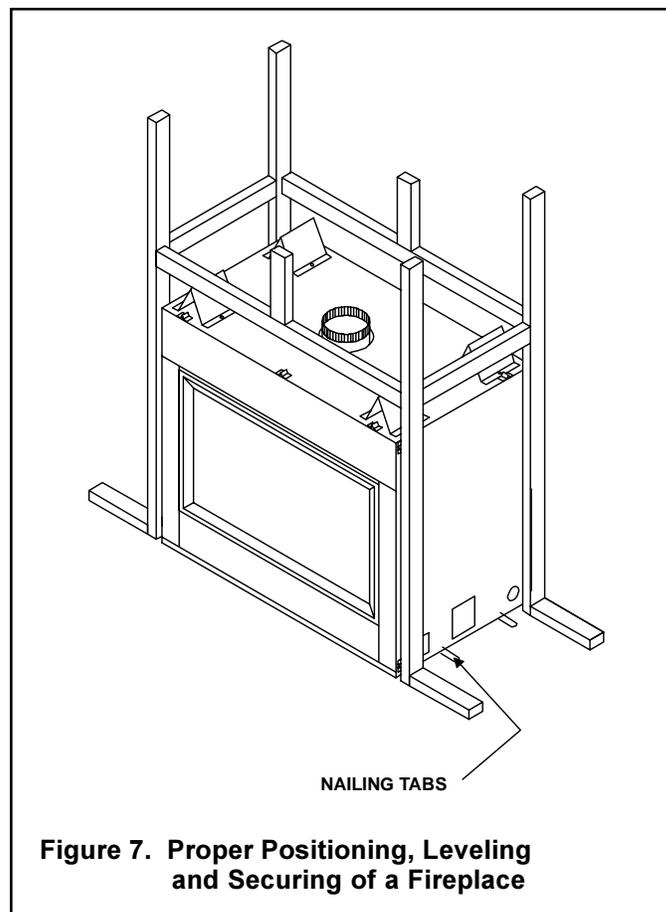

Figure 7. Proper Positioning, Leveling and Securing of a Fireplace
- Place the fireplace into position (see Figure 7).